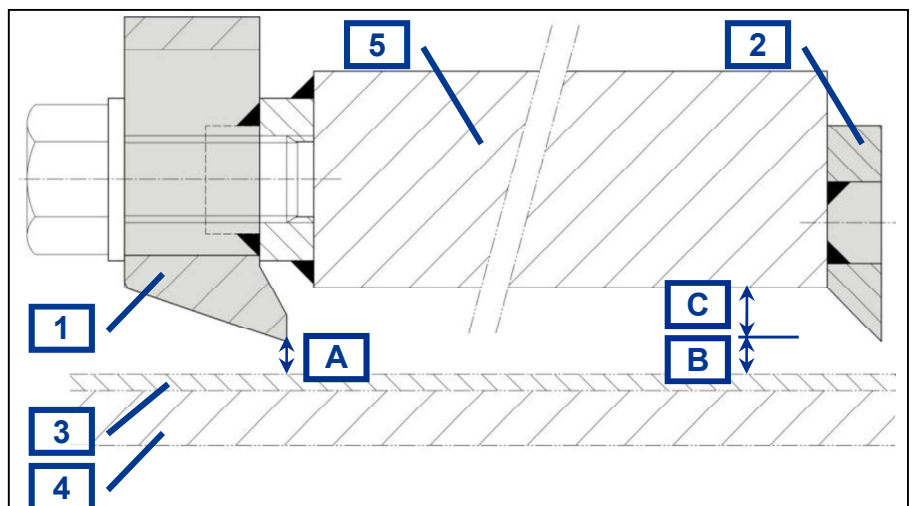
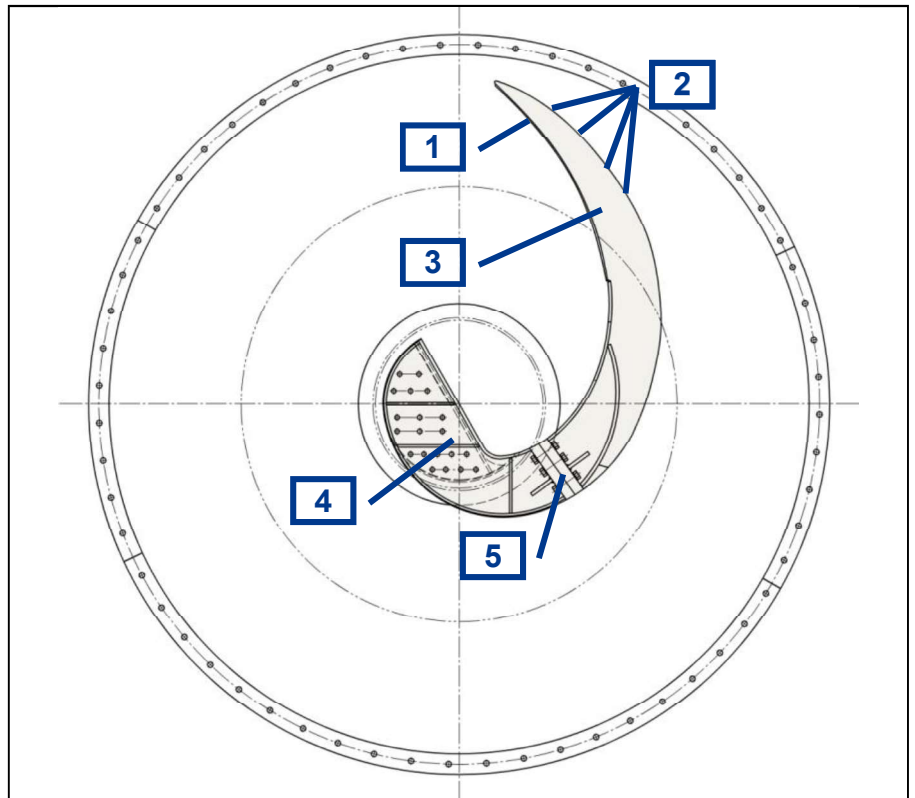

Fig.: 18 Wear parts at the clearing arm
Fig.: 20 Sickle blade: Two-part clearing arm (schematic)
Scraper (Fig.: 18/[1])
The scrapers can be adjusted at slight wear. If no adjustment path is left and Fig.: 18 size [A] is $\geq 5 \leq 15$ mm, the scrapers must be replaced.)
Sickle blade (Fig.: 18/[2])
The sickle blade should be renewed if Fig.: 18 size [B] is $\geq 5 \leq 14$ mm. It must be replaced if Fig.: 18 size [C] \leq is 1 mm.
Required documents	<ul style="list-style-type: none"> Fig.: 18
3. ► Open the welds of the sickle blade (Fig.: 18/[2] and Fig.: 20/[1]) and remove the sickle blade.